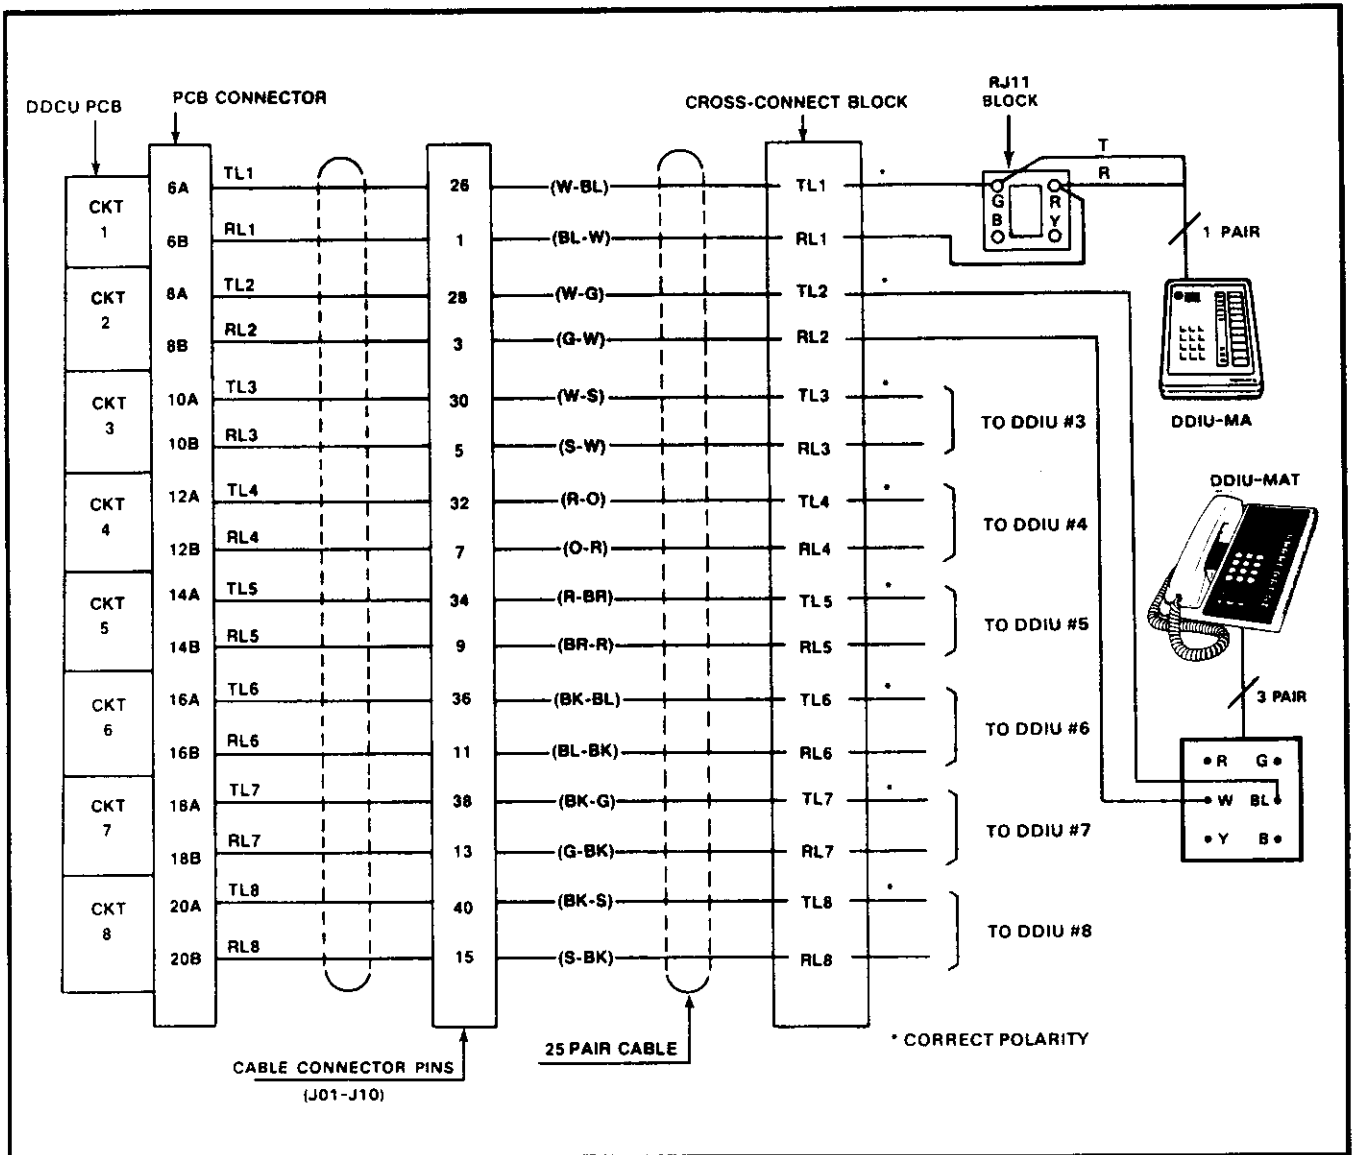

FIGURE 31—DIGITAL DATA INTERFACE UNIT CONNECTION
08.23 Digital Data Interface Unit connection details are shown in Figure 31.